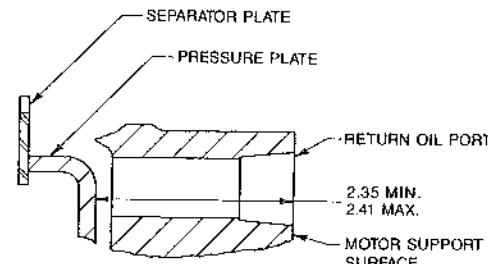

FIGURE 1
- B. Apply 500 PSI to the brake. Close shut-off valve and let stand for 30 seconds then open valve. Repeat three (3) times to purge air from cylinder.
(5) minutes. If there is any loss of pressure in five (5) minutes, the brake cylinder should be disassembled for inspection of the sealing surfaces and brake piston seals.
8. After the motor support is installed in the end bracket, the total brake plate stack up should be checked. This can be done by measuring the distance from the surface of the machined face around the drain port hole on the motor support to the back face of the pressure plate (fig. 1). This check can only be performed after all parts have been assembled in the winch. For optimum winch performance a measurement range of 2.41 inches max. to 2.35 inches min. is required. If the dimension exceeds 2.41 inches add one additional steel brake disc. If the dimension is below 2.35 inches then a steel brake disc must be removed. To assist in achieving the correct brake pack thickness, a new 0.048 inch thick steel brake disc 27838 is now available. If a 27838 disc is used it should be installed on top of the brake pack closest to the motor support. A further check for correct brake piston travel can be made by removing the motor and pressurizing the brake through the external brake release port